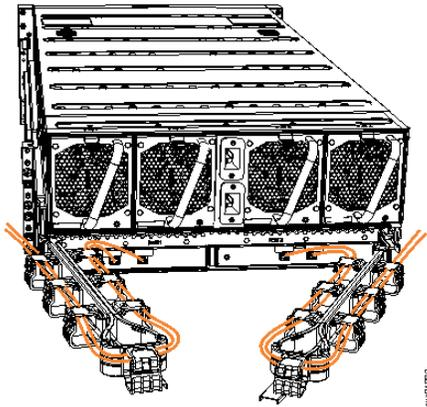

Figure 167. Example of SAS cables routed through the cable management arms
8. Route the SAS cables through the cable management arms, as shown in Figure 167 on page 222.